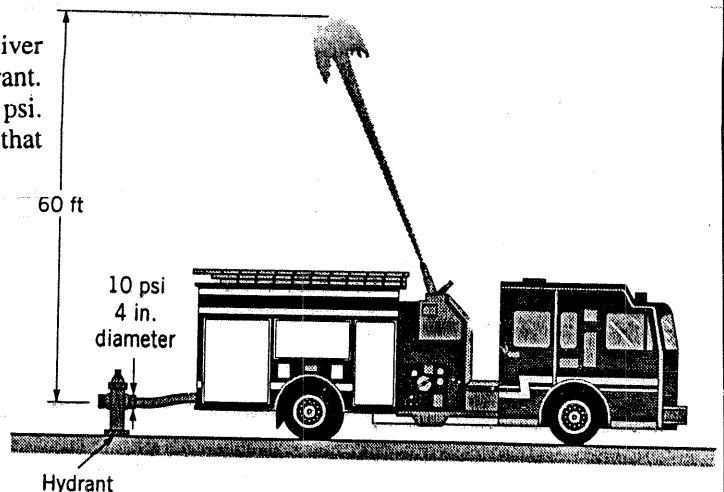

FIGURE P5.107
5.107 The pumper truck shown in Fig. P5.107 is to deliver $1.5 \text{ ft}^3/\text{s}$ to a maximum elevation of 60 ft above the hydrant. The pressure at the 4-in. diameter outlet of the hydrant is 10 psi. If head losses are negligibly small, determine the power that the pump must add to the water.